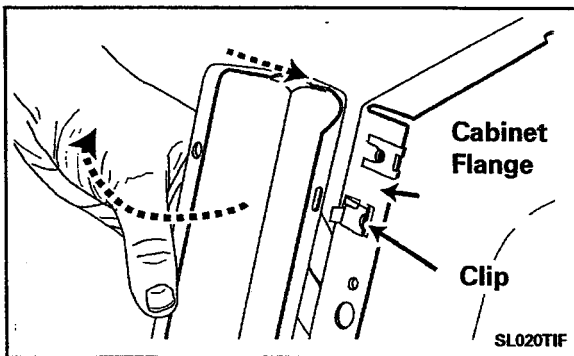

Figure 2-17
4. To remove the front panel, open the door, twist the upper right and left panel extensions inward by pressing in on the outer upper edges of the front panel posts. This will disengage the front panel posts from clips located on the face of the cabinet flange (*Figure 2-17*).